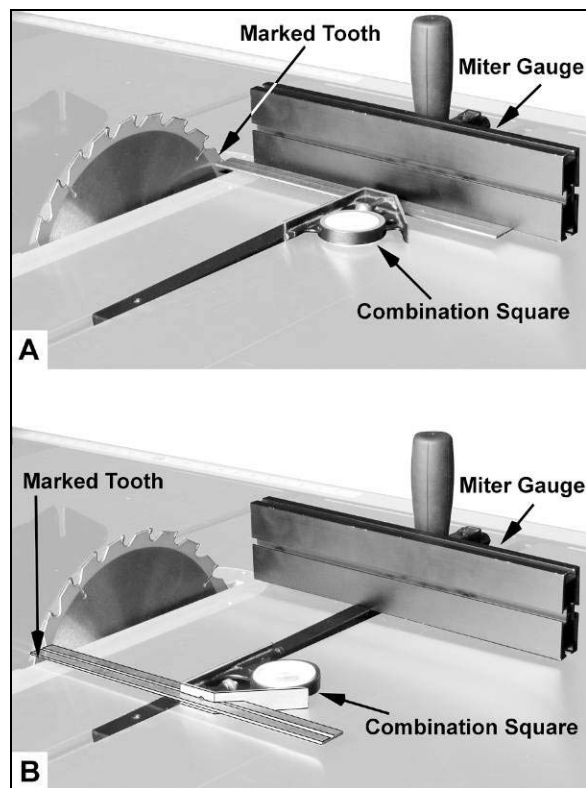

Figure 12
3. Raise the miter gauge slightly out of its slot to serve as a shoulder. Using a combination square against the side of the bar, slide the scale over until it touches the tip of the blade, and lock the scale in position (A, Figure 12).
4. Rotate the marked tooth so that it is slightly above the table top at the rear (B, Figure 12) and using the square as before, check whether the distance to the blade is the same.